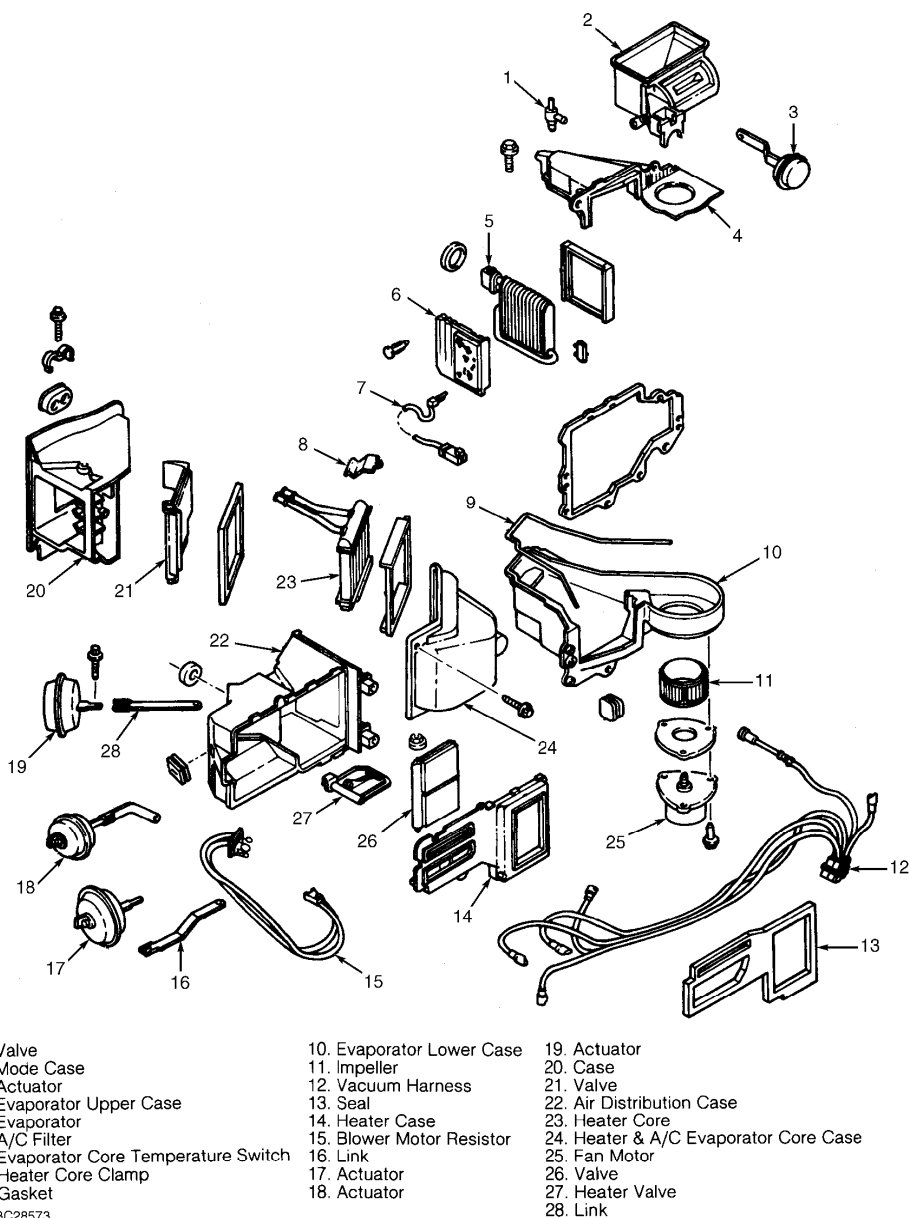

Fig. 3: Exploded View Of A/C-Heater Assembly
3) Place a mat on passenger side floor to protect carpeting. Using a small hand saw, remove perforated section of A/C-heater case as one piece (DO NOT discard). Remove bolts and hoses retaining A/C evaporator. Slide evaporator to left. Remove evaporator from A/C-heater case. See Fig. 3.